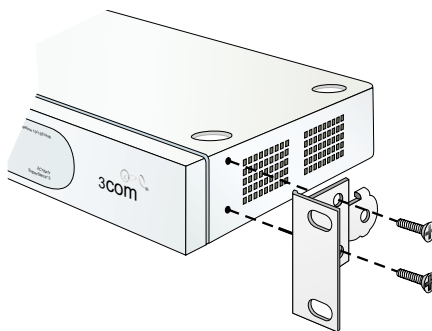

Figure 2-3 Mounting Bracket Installation (Ethernet Hub)
1. Secure one mounting bracket to each side of the first hub as shown in Figure 2-3. Use the two brackets and four pan-head Phillips screws (8/32 x 0.5-inch) provided.